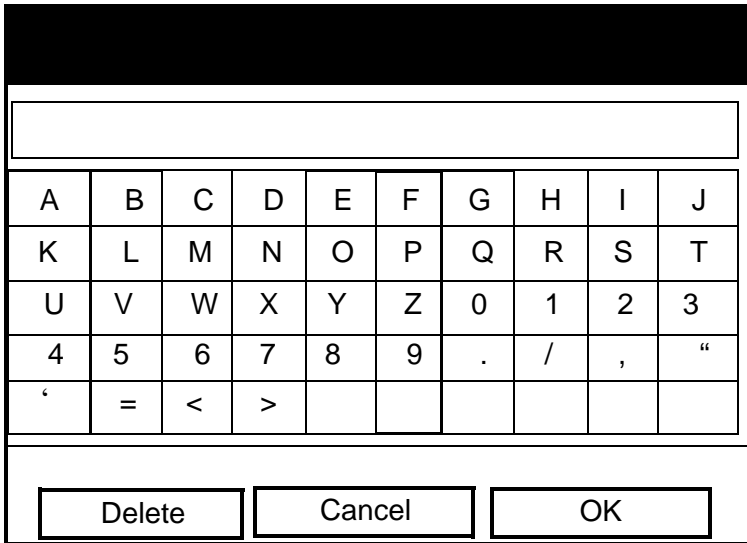

Figure 49: Text Creation Window
2. Press [ENTER] to select "Message," which opens the text creation window, shown in Figure 49 on page 82.